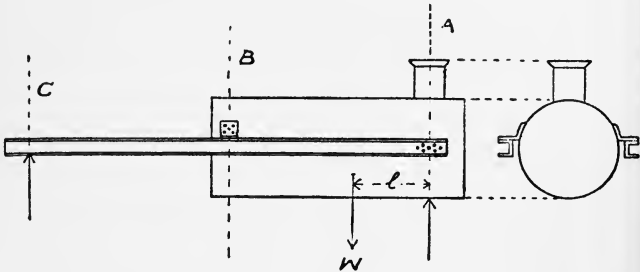

Fig. 4.
8. The horizontal boiler of a motor-waggon is carried between two parallel girders as shewn diagrammatically in Fig. 4. At the smoke-box end *A* the girders are riveted to the sides of the boiler, and at the other end *B* the boiler is carried by a pair of brackets riveted to its sides and resting on the top edges of the girders so that the boiler is free to expand. The boiler and girder frame are supported vertically under the points *A* and *C*, which are equidistant from *B*. Assuming that when the girders are unstressed they are just in contact with the brackets at *B*, prove that the shearing couple on each riveted joint at *A* is $\frac{1}{8}Wl$ where *W* is the weight of the boiler, and *l* the horizontal distance between its centre of gravity and *A*.